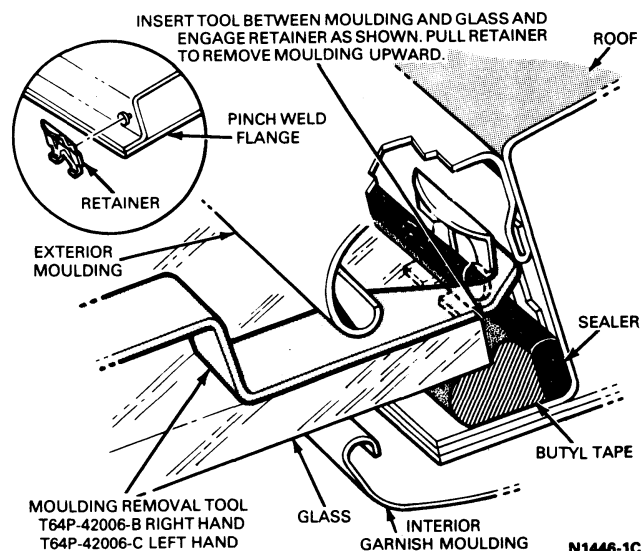

FIG. 1 Windshield Moulding Removal Tool—Typical
2. Remove the windshield exterior mouldings (Figs. 1 through 5).
2. Remove the windshield exterior mouldings (Figs. 1 through 5). On vehicles with heated rear windows, disconnect heating wires before proceeding with glass removal.